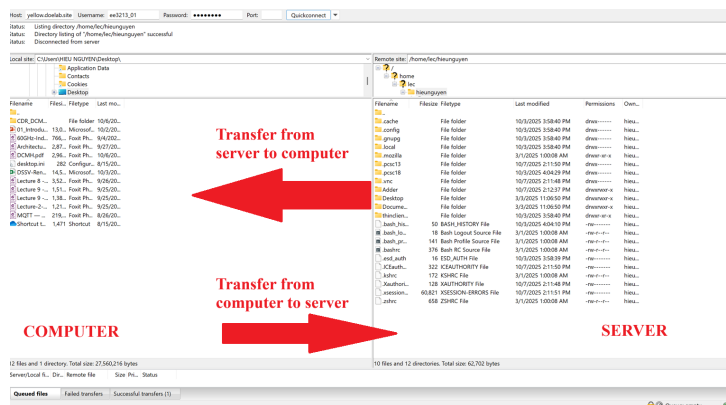

Figure 9: Use FileZilla to connect to server
3. After connecting to the server, the GUI is shown in Figure 9.